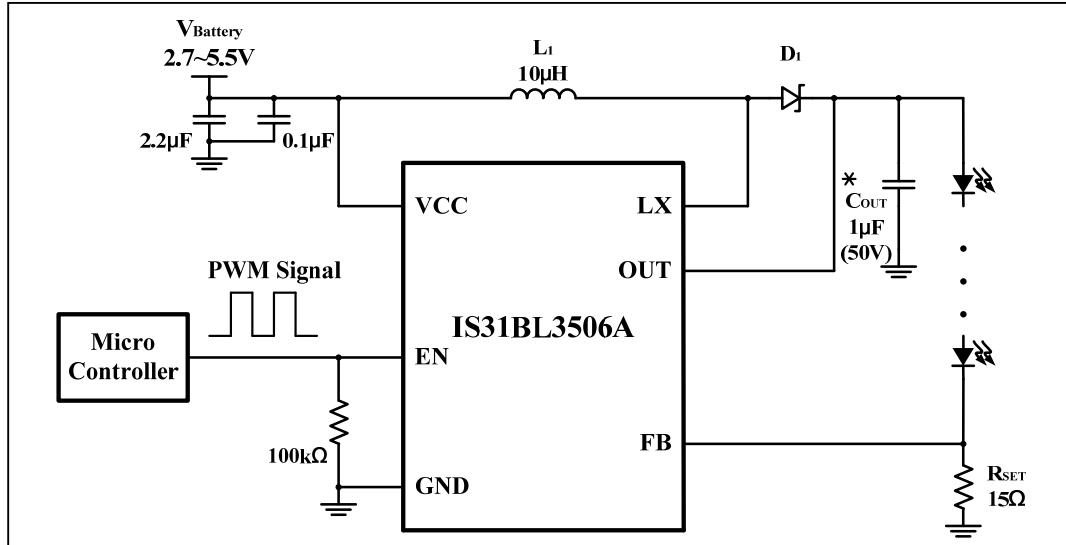

Figure 1 Constant current white LED driver using PWM at the EN pin to control intensity
When the IS31BL3506A is used for LED driving applications (Figure 1), the LED current flows through the external feedback resistor  $R_{SET}$  to regulate the LED current. The internal feedback regulation point is 0.3V. The maximum LED current may be calculated by the following equation, (1).